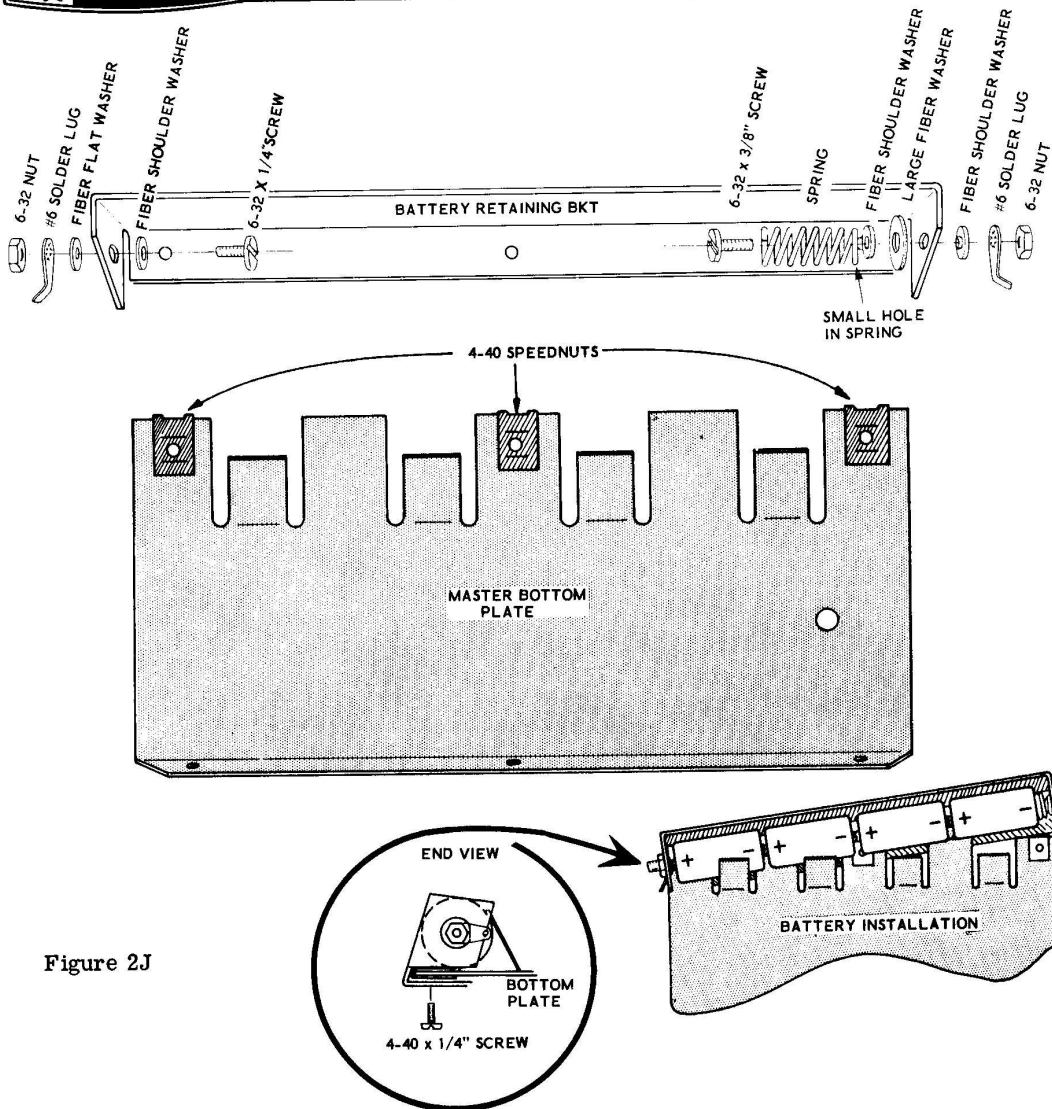

Figure 2J
- ( ) Install another fiber shoulder washer over this screw on the other side of the bracket. Put the shoulder of the washer in the hole in the bracket, and fasten the assembly in place with a #6 solder lug and a 6-32 nut. Place the solder lug as it is shown in Figure 2J.
- ( ) Fasten one end of the battery retaining bracket to the master bottom plate as it is shown in the inset drawing of Figure 2J. Use a 4-40 x 1/4" screw through from the bottom of the retaining bracket into the 4-40 speednut on the bottom plate.